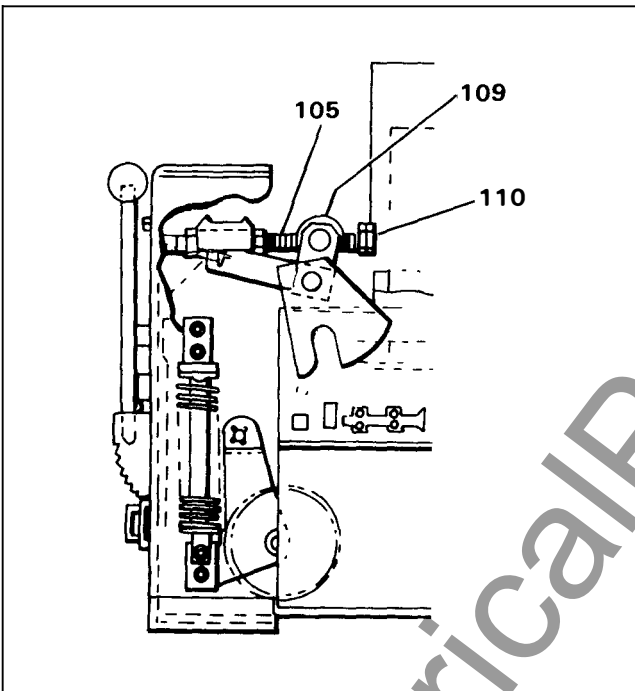

Figure 3. Detail of Typical Racking Mechanism and Drawout Interlock
Refer to **Figure 3**. With the circuit breaker resting on the cubicle rail, the following sequence should be used to rack the circuit breaker into the cubicle.
- Before attempting to operate the circuit breaker, the position of the device should be checked with reference to the holes in the cubicle, to be certain that it is fully connected. Two stop nuts are provided on the racking screw to set the connected position. These are adjusted by setting the angle of the racking clevis, as shown in Figure 3, and by tightening the nuts against the stop washer (109), the two nuts (110) should then be locked against each other.